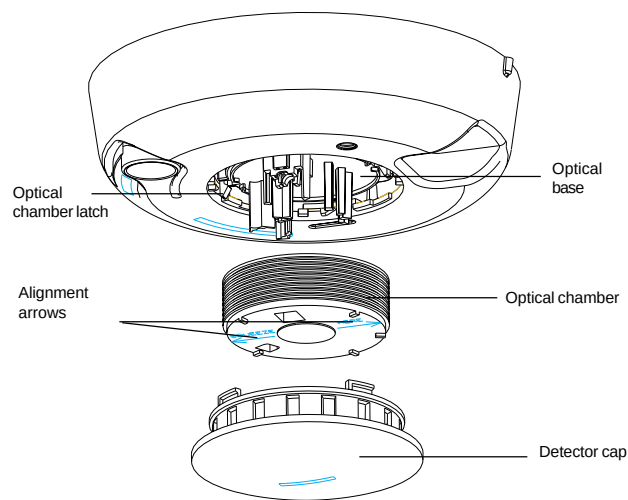

Figure 6. Detector Parts
5. Squeeze the field replaceable optical chamber and pull it up and away from the optical base and discard. See Figure 6.